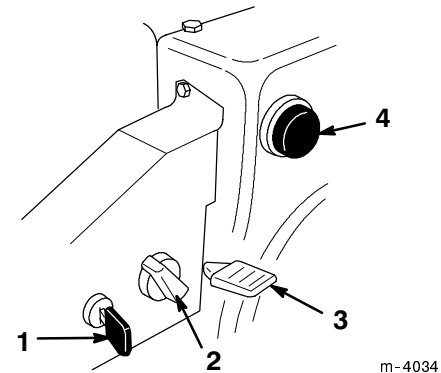

Figure 18
- **Ignition Switch** (Fig. 18)—Insert the key before starting the engine. To stop the engine, remove the key.
- **Choke** (Fig. 18)—Rotate the choke clockwise to the *On* position to start a cold engine. As engine warms up, gradually rotate the choke counterclockwise to the *Off* position.
- **Throttle** (Fig. 18)—Move the throttle upward to increase engine speed and downward to decrease engine speed.
- **Primer** (Fig. 18)—Press the primer to pump a small amount of gasoline into the engine for improved cold-weather starting.
2. Remove the key from the ignition switch (Fig. 18).
3. Pull the choke knob off (Fig. 18).
4. Rotate the choke (Fig. 18) to the *On* position.
5. Insert the ignition key (Fig. 18).
6. Cover the hole in the center of the primer (Fig. 18) with your thumb and push in the primer slowly three times.
9. After the engine starts, immediately rotate the choke (Fig. 18) to the $3/4$ position. As the engine warms up, rotate the choke to the $1/2$ position. When the engine warms up sufficiently, rotate the choke to the *Off* position.